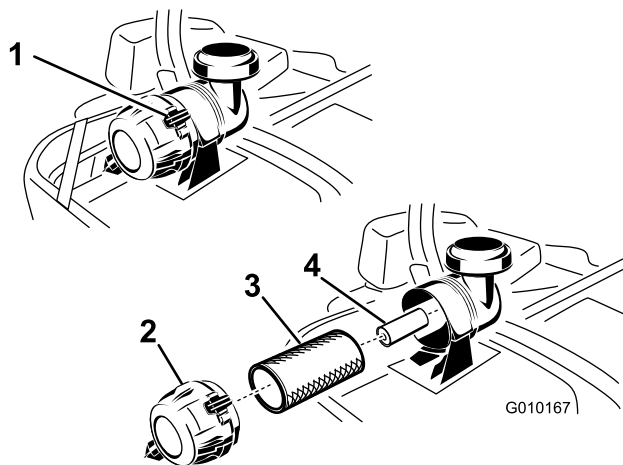

Figure 47
3. Push down to release the retaining clamps on the air cleaner and pull the air cleaner cover off of the air cleaner body (Figure 47).
5. Gently slide the primary filter out of the air cleaner body (Figure 47). Avoid knocking the filter into the side of the body.
1. Do not clean the paper filter, replace it (Figure 47).
2. If the secondary filter is being replaced, carefully slide it into the filter body (Figure 47).
3. Carefully slide the primary filter over the secondary filter (Figure 47). Ensure that it is fully seated by pushing on the outer rim of the filter while installing it.
4. Install the air cleaner cover with the breather cap down and rotate so the retaining clamps lock the cover in place (Figure 47).